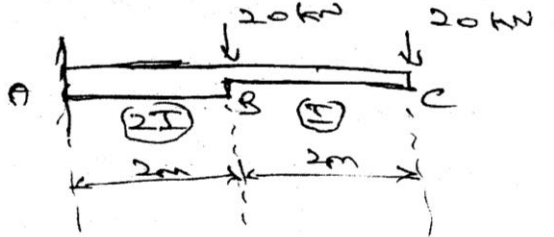

Figure-3
3. Determine the deflection and rotation at the free end of the cantilever beam shown in figure-3. Use unit load method. Assume $E = 200 \text{ kN/mm}^2$ and $I = 12 \times 10^6 \text{ mm}^4$.